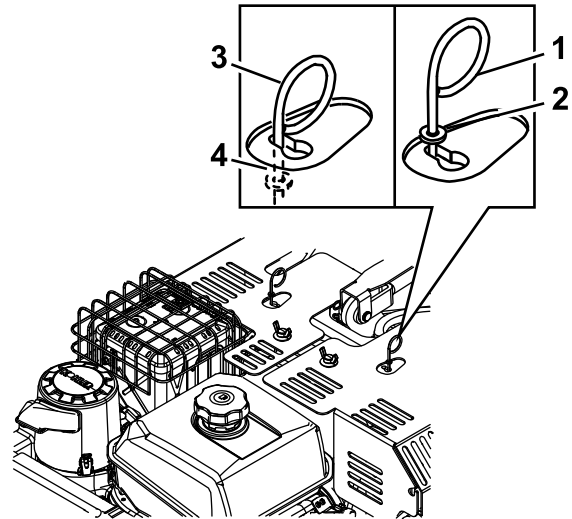

Figure 29
- Move the lever to the larger opening of the slot (Figure 29).
- Push the lever downward until the washer is inside of the frame (Figure 29).
- Move the lever to the narrow portion of the slot, and release the lever (Figure 29).
- Move the release-valve lever to the larger opening of the slot (Figure 29).
3. Pull the lever upward until the washer is outside of the frame (Figure 29).
4. Move the release-valve lever back to the narrow portion of the slot, and release the lever (Figure 29).